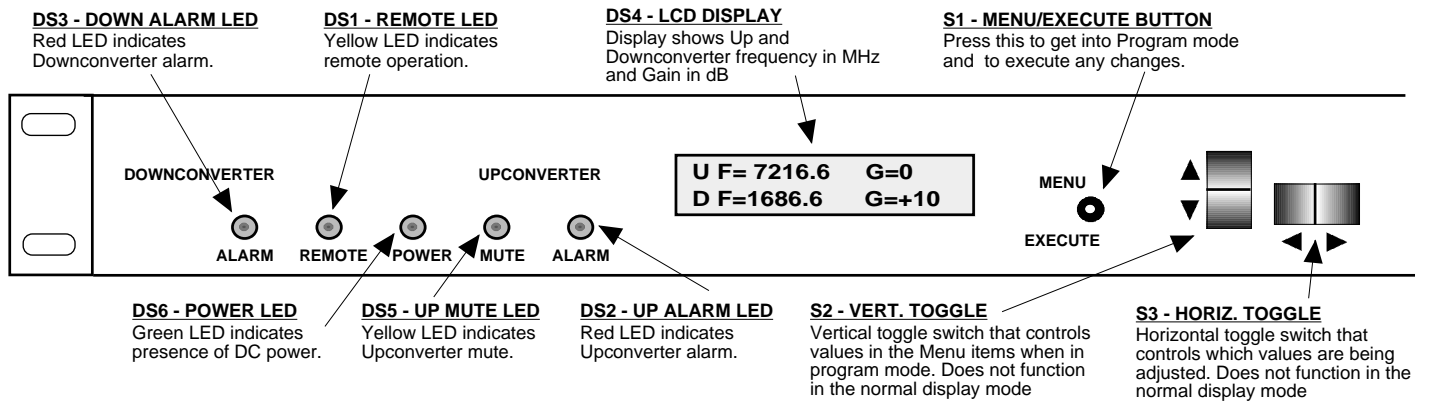

Figure 2.2 Model 2017-7216 Front Panel Controls and Indicators
- 4.) Be sure DS6 (green, DC Power) is on and DS2 & DS3 (red, Alarm) are off (Figure 2.2).
2.5.1 Functions - This section describes operation of the front panel controls. There are three operator switches, the LCD display and alarm indicator LEDs. All functions for the equipment are controlled by these components. The functions are (see Figure 2.2):
Alarm indications appear on the LEDs (see figure 2.2).